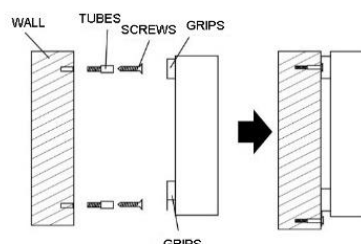

Fig.4
- 3 – Set up grips with screws (Fig. 4)